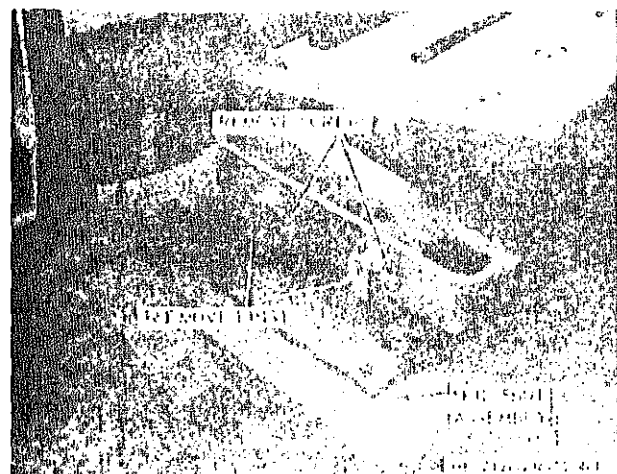

Figure 4-4. Skid shoe, removal and installation.
a. *Removal.* Remove skid shoe as illustrated in figure 4-4.
(1) Clean parts and dry thoroughly.
(2) Inspect for wear, cracks, breaks, and damage. Replace all defective parts.
c. *Installation.* Install skid shoes as illustrated in figure 4-4.